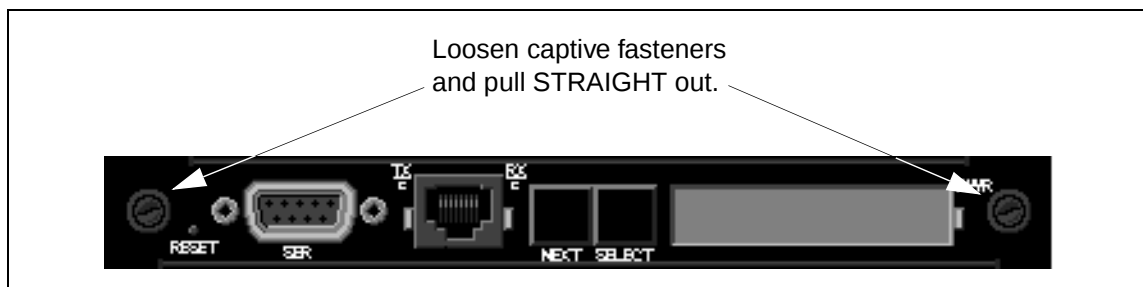

Figure 3.5 - Removal of an SCP
3. Pull firmly and carefully on the two captive fasteners, removing the SCP from the switch fabric as shown in Figure 3.5.